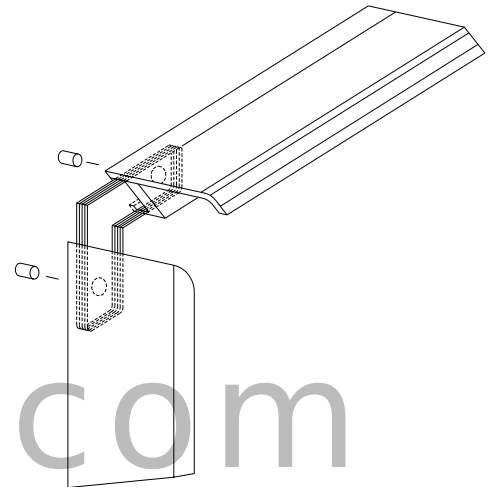

Figure 15
3. Assemble the faceplate trim, joining the mitred corners with corner brackets (See Figure 15).